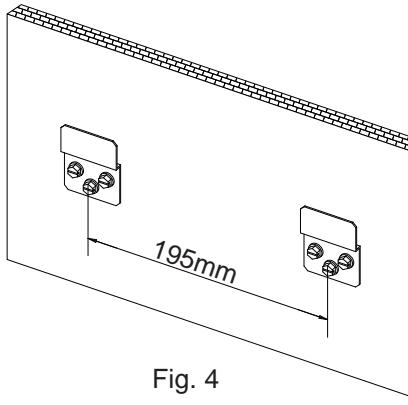
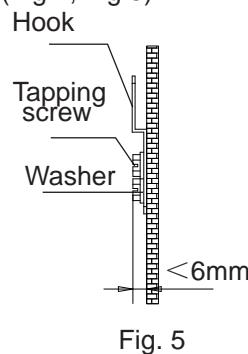

Fig. 4
Fig. 5
- 1- Fix the hook with tapping screw onto the wall. (Fig.4, Fig.5)